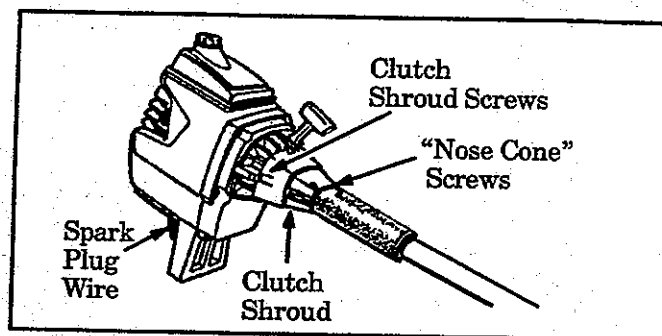

Figure 26
1. Disconnect spark plug wire. Figure 26.
5. Loosen two "Nose Cone" screws and remove the tube from the clutch shroud. Figure 26.
6. Remove the four clutch shroud screws with the small hex wrench provided. Figure 26.
7. Separate clutch shroud from engine. Figure 26.